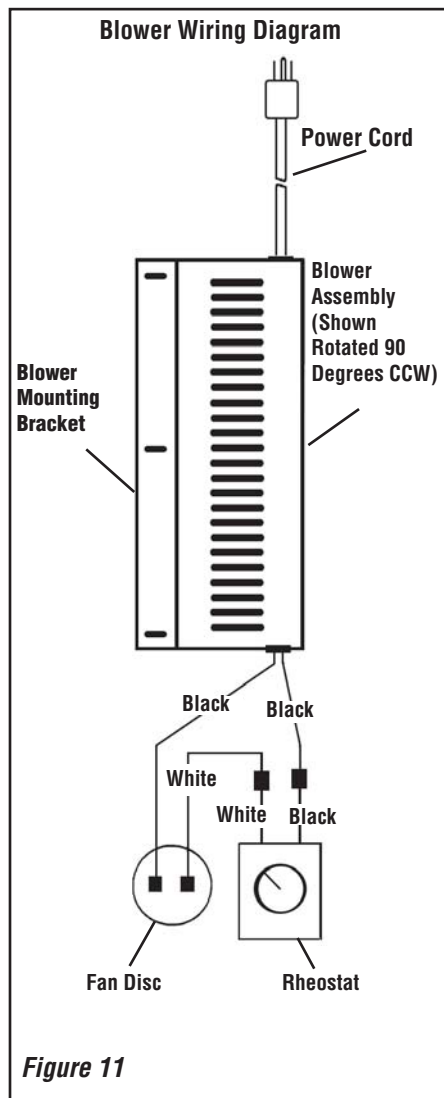

Figure 11
The gas valve is set in place and pre-wired at the factory on both models (see Figure 11).
**Wiring - Optional Forced Air Blower Kit:** BK-CI (see Figure 11 for wiring diagram) - (An optional field-provided outletbox/J-Box may also be used). Install the blower kit according to the installation instructions provided with the kit.